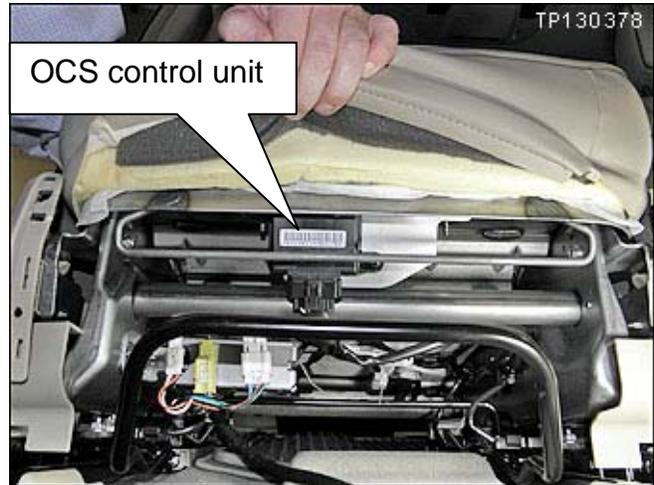

Figure 1
3. Replace the OCS control unit with the one listed in the Parts Information (see Figure 1).